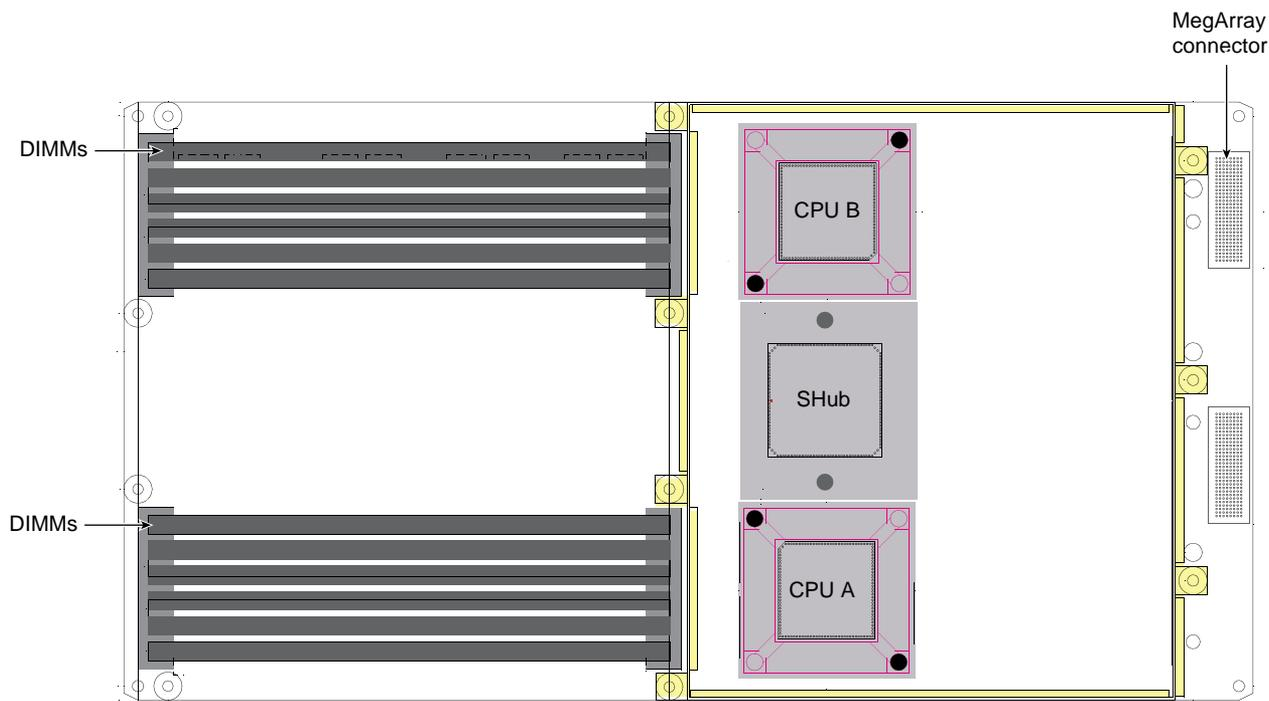

Figure 4-3 IP57 Node Board
- One or two Intel Itanium 2 processors (labeled CPU in Figure 4-3). Each processor has integrated L1, L2, and L3 caches.